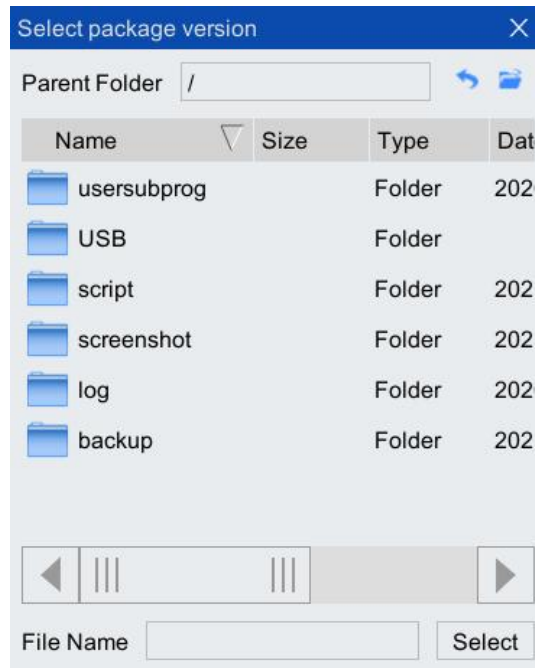

Figure 2-3 Select package version dialog box
Step5. Click the <install> button to pop up the [Select package version] dialog box as shown in Figure 2-3.